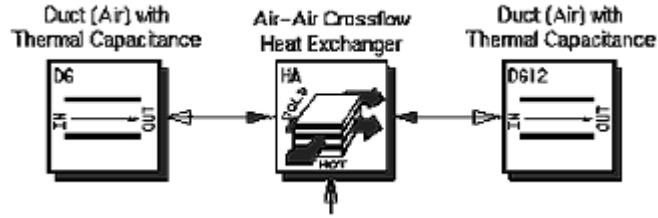

Figure 16 Example of Using Standard Components
*Standard components* are library components that are different from blocks in that they may be multi-input/multi-output and the connections between these components can be *multi data connections*. Figure 16 is a good example of using standard components. These components are from the EC library. Even though only one connection line is shown between these components, they are bidirectional and multi-data connections. Each connection line shows the connection of five variables: T, W, SH, CO, and P, where P (pressure) connects in the negative (upstream) direction. Such attributes are not possible with blocks.